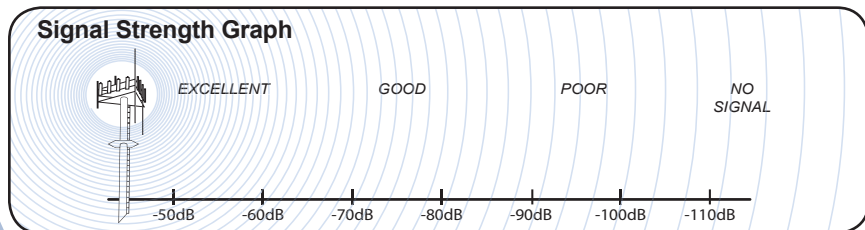

Figure 1
Note: Never point the front of a directional antenna toward the Inside Antenna. See Figures 1 & 2 on page 10.
1. Never point the front of a Directional Outside Antenna toward the Inside Antenna. See Figures 1 & 2 on page 10.